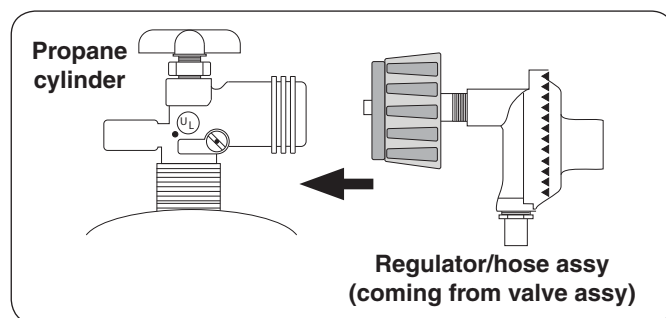

Fig. 21-2 Connecting to an L.P. Cylinder
1. Attach the regulator end of the hose assembly to a propane cylinder (not included) and tighten (see Fig 21-2).